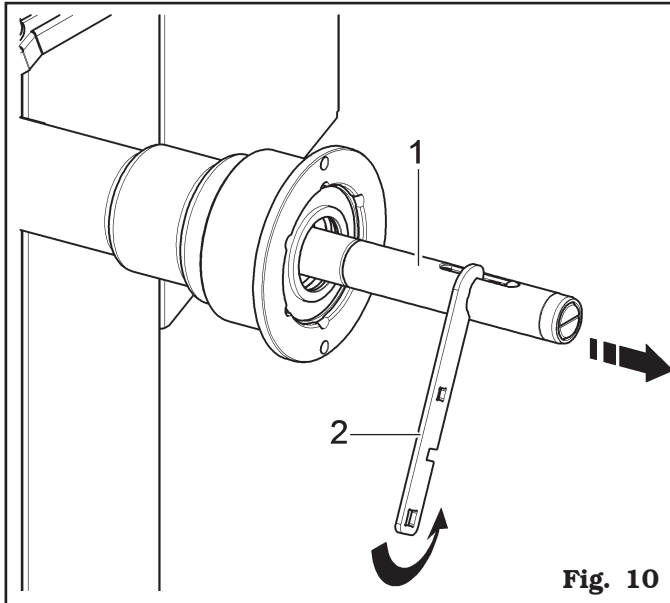

Fig. 10
2. Release the pneumatic shaft (Fig. 10 ref. 1) using the wrench provided (Fig. 10 ref. 2).